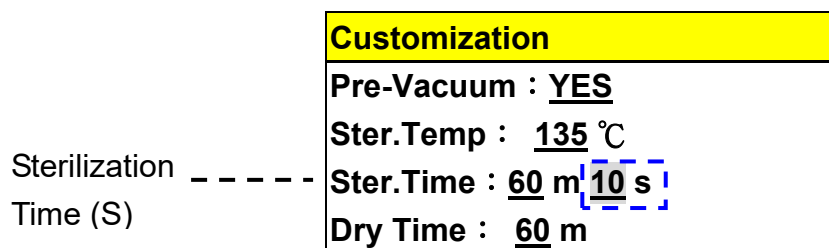

Figure 79
- Press  button to store sterilization time parameter as shown in Figure 79.